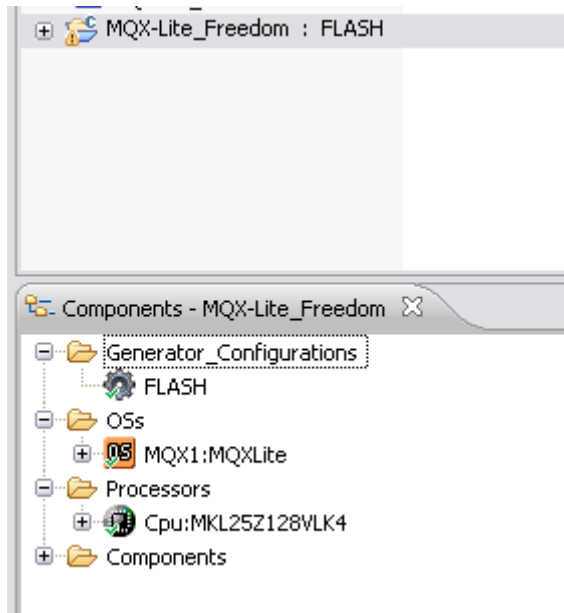

Figure 8. "CodeWarrior Projects" and "Components" windows
6. When the wizard finishes CodeWarrior has a new appearance that looks like figure 8. There are two main changes. The "CodeWarrior Projects" window has a new project included and the "Components" window shows the Processor Expert added components.